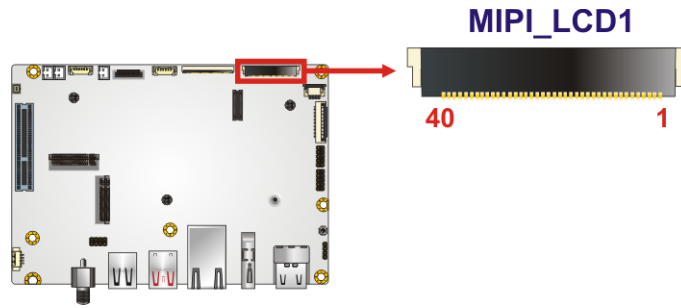

Figure 3-8: MIPI DSI Output Connector Location
- CN Location:** See **Figure 3-8**